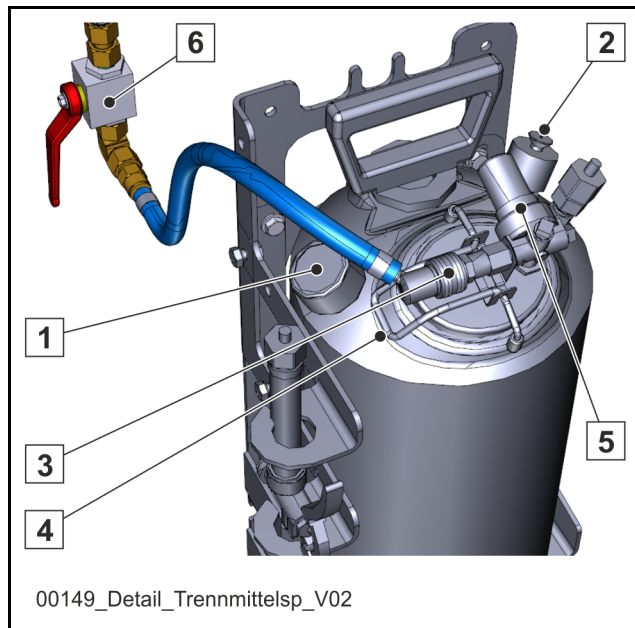

Fig. 493
Only open the pressure tank if the pressure gauge on the pressure tank (1) (Fig. 493) is pointing to "0".
Caption (Fig. 493)
2. Connect the quick-acting coupling (3) (**Fig. 493**) to the compressed air supply of the pressure tank.
3. If available, open the ball valve (6) (**Fig. 493**).
The pressure release valve (5) (**Fig. 493**) is set to the optimal value in the factory and may only be changed by a SCHWING representative.
- Disconnect the compressed air supply from the pressure tank, if available, by closing the ball valve (6) (**Fig. 493**) or by switching off the vehicle and disconnecting the quick-acting coupling (3) (**Fig. 493**).
- Open the pressure relief valve (2) until compressed air no longer exits the pressure tank.